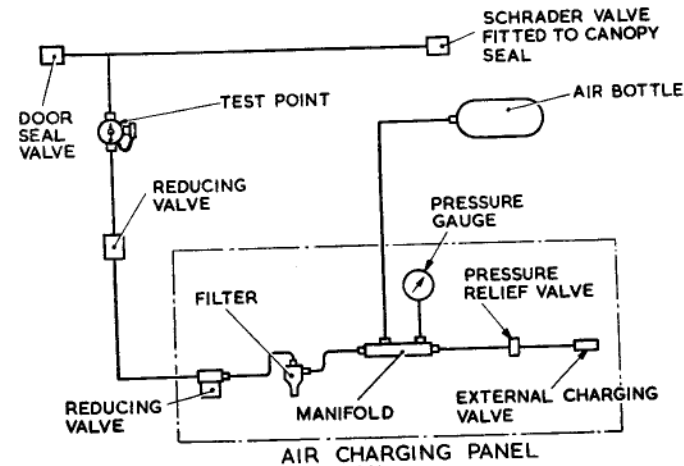

Fig. 3. Door and canopy seals system diagram
- (1) Fit a 0-5 lb. per sq. in. pressure gauge to the test point (fig. 3).
- (2) Ensure that the system is charged to 450 lb. per sq. in.
- (3) Shut and lock the cabin door (cabin unpressurised).
- (4) Select the test point to 'SEAL TO TEST POINT' position.
- (5) Check that the pressure gauge reads 4 lb. per sq. in. and that the pressure does not fall below 3.6 lb. per sq. in. in less than 5 minutes.